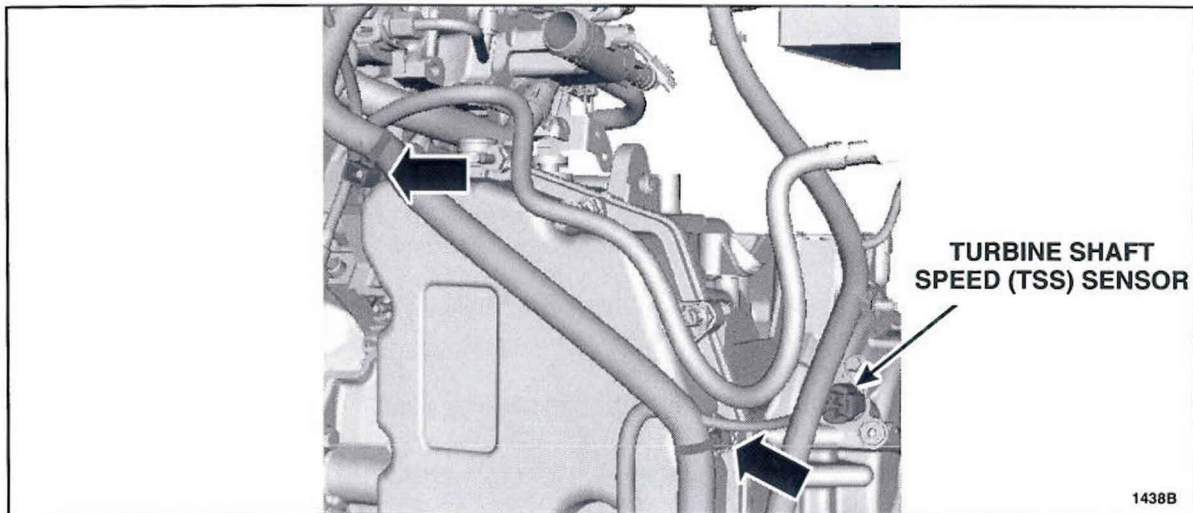

FIGURE 2
5. Disconnect the two wire harness retainers and disconnect the Turbine Shaft Speed (TSS) Sensor. See Figure 2.